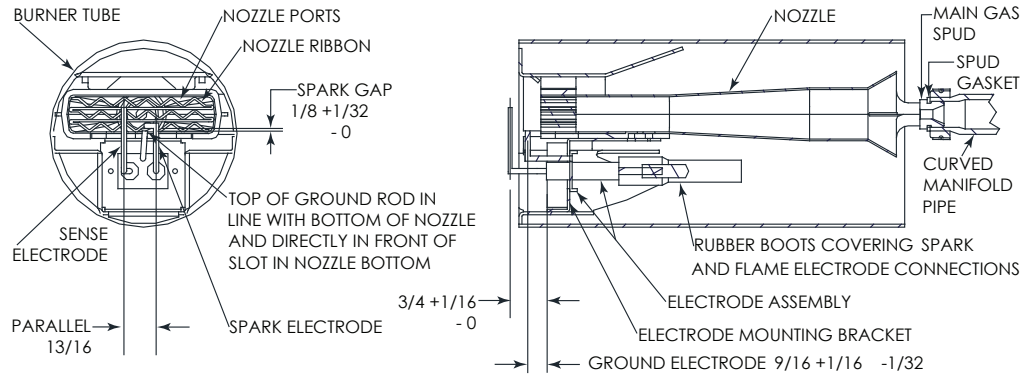

Figure 7 - Nozzle Assembly and Electrode Assembly
scale in the nozzle ribbon. Check the electrodes for serious burning and the insulators for cracks. The electrode assembly is not adjustable, if defective; replace with a new one. When reconnecting the electrode leads refer to Figure 7 for the correct hookup. Be sure to replace the rubber boots over the electrodes and treat the electrode leads with care. Because of high voltage any damage to the insulation is a potential leak path.
- b. Between Electronic Control high voltage terminal and Spark Electrode Wire (insert head of #8 x 3/4" or longer round head screw into snap terminal inside right angle rubber boot). No spark, broken wire, cracked insulator, or "spark gap" too wide, see Figure 7.
- c. Between spark electrode tip and top of ground rod, see Figure 7. If spark is not visible and/or can not be heard, remove nozzle assembly (see Section IX **Nozzle and Electrodes**) and ground it solidly to burner metal. No spark, cracked insulator and spark traveling to ground along crack.
1. Check sense electrode position per Figure 7.